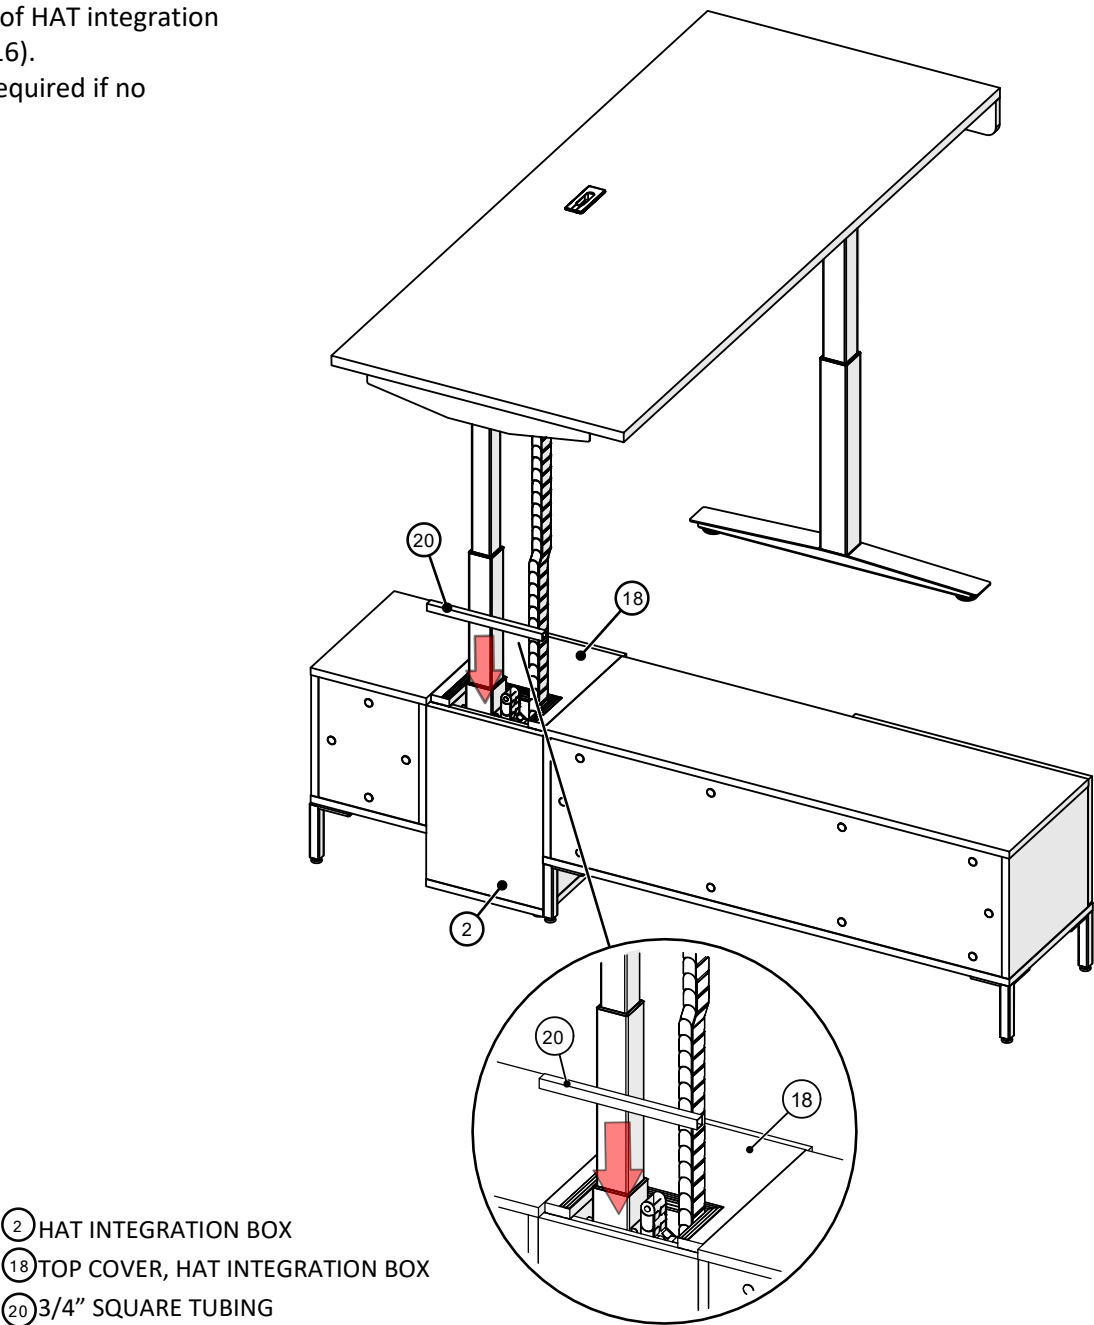

Figure 16
- 22.** Place the 3/4" Square Tubing on top backside of HAT integration box, (Figure 16).